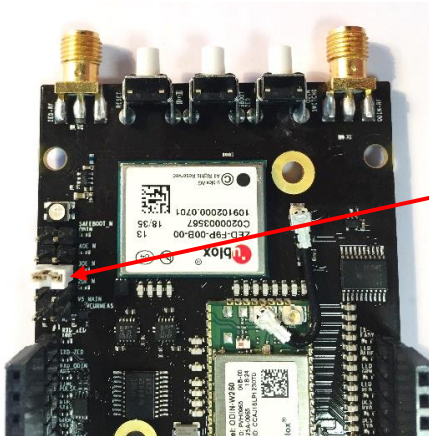

Figure 19: C099-F9P rover jumper position
The ODIN-W2 module communicates with the ZED-F9P via a serial port which is shared with the FTDI USB/COM port via multiplexors. Once Bluetooth communication is established with the ODIN-W2, a jumper connection should be made at position “3OE” to connect the serial ports of the ZED-F9P and ODIN-W2 together. See Figure 19 below.
-  Place a jumper at position “OE3” as shown in Figure 19, this will connect the ODIN-W2 and ZED-F9P UARTs to provide transmission of RTCM messages to the rover.